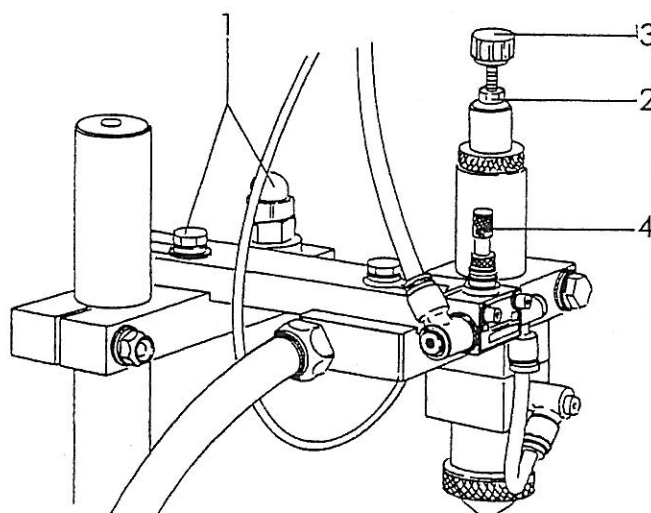

Fig.10.1.6
- loosen screws 1 fig. 10.1.6 and adjust concentricity of the dispenser with the relative cone positioned in the mould. Lock screws fig. 10.1.6;
- loosen nut 2 fig. 10.1.6 and rotate knob 3 fig. 10.1.6 to adjust the quantity of chocolate dispensed. Rotation in a clockwise direction reduces the quantity of chocolate, while rotation in an anti-clockwise direction increases the quantity.
- tighten nut 2 fig. 10.1.6.